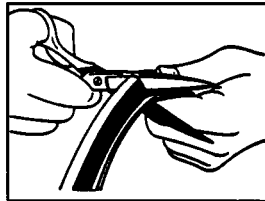

Figure 8
1. Cut the V-ring seals so that the cross section surfaces are even. The cut should be made with a large pair of sharp scissors or a sharp knife (band saw for E profile). Prior to the cutting procedure, clean the cutting blade with MEK (Figure 8).